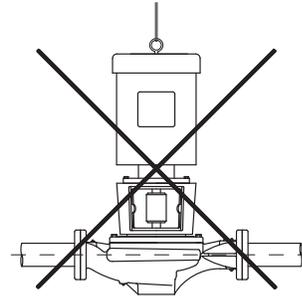

Fig. A1.10 Motor lifting hook supported
**DO NOT** support the unit by the motor eye bolts (Figure A1.10) or by any other part of the motor.